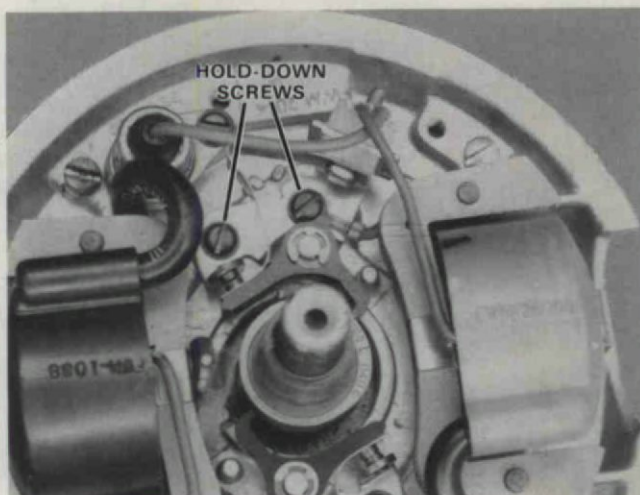

Figure 41. Location of Breaker Point Hold-Down Screws.
- Position new coil at coil lamination of stator plate so that spark plug lead wire extends from upper left — inside (note position of spark plug lead wire in Figure 41).
2. Remove two screws holding breaker point to stator plate as shown in Figure 41.